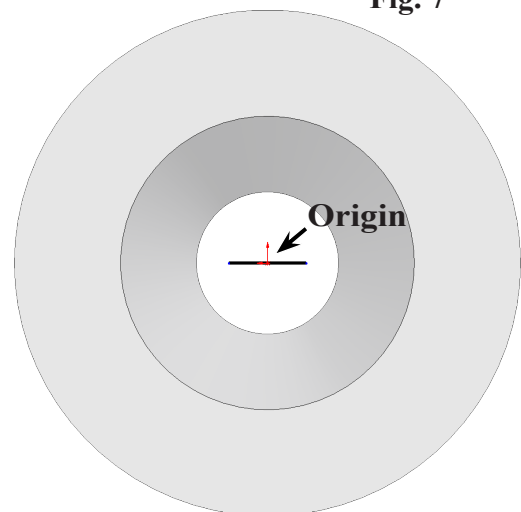

Fig. 9
Step 4. Sketch a horizontal line out from the Origin , **Fig. 9**.
Step 5. Click **Line**  (L) on the Sketch toolbar.